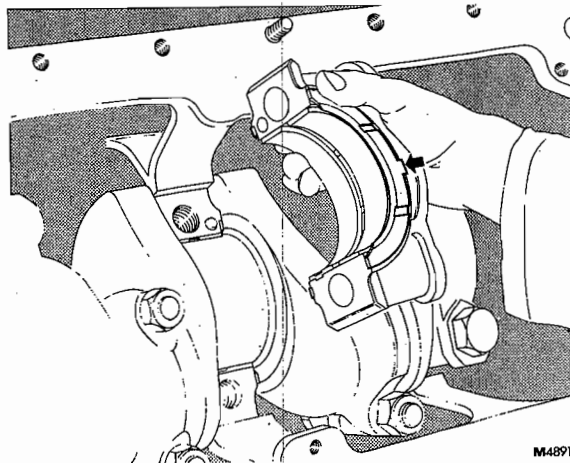

FIG. 3 FITTING CENTRE MAIN BEARING CAP SHOWING TONGUE LOCATION OF LOWER THRUST WASHER
Note: The two lower thrust washer halves locate in machined grooves at either side of centre main bearing cap. The tongue location, shown arrowed in Fig. 3, prevents thrust washer rotation under running conditions.
4. Fit bearing caps ensuring that both caps, and, where applicable half shells, have been correctly identified and located. The centre main bearing cap is fitted with lower thrust washer halves held in position as shown in Fig. 3.